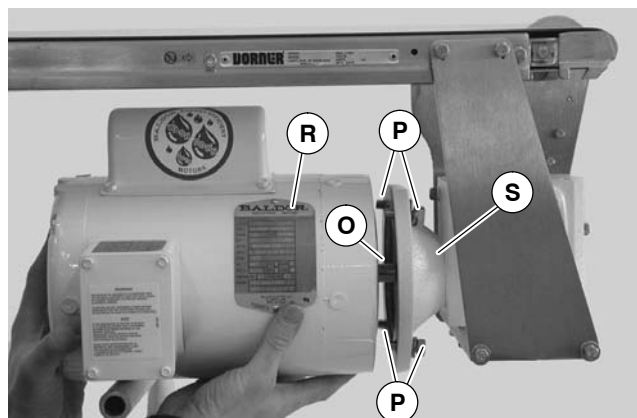

Figure 41
7. With key (O of Figure 41) in keyway, slide motor (R) and gear reducer (S) together. Install four lock washers and screws (P) and tighten.